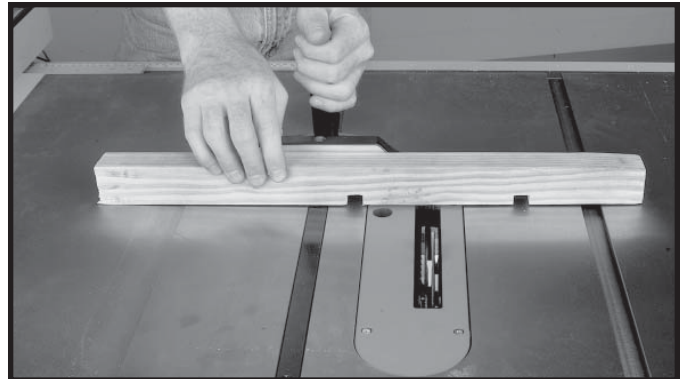

Fig. S21
3. Fig. S21, shows a typical dado operation using the miter gauge as a guide.